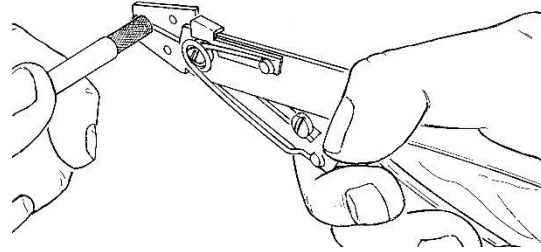

Figure 15
4. Remove dielectric at the mark with a simple wire stripping plier. See Figure 15.